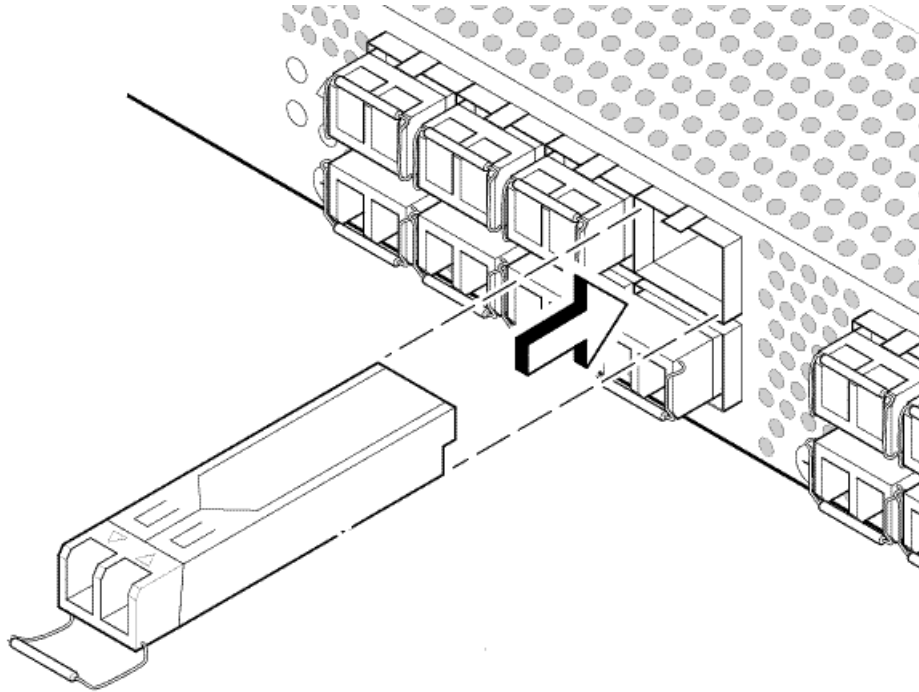

FIGURE 7 Installing an SFP into an upper port
2. Ensure that the bail (wire handle) is in the unlocked position. Place the SFP in the correct position on the port (Figure 7).